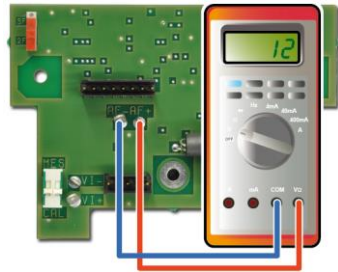

Figure 25
- Read the mV value on the voltmeter (Figure 25), with the full scale at 1600 mV. Calculate the value to be read as a function of your test gas.